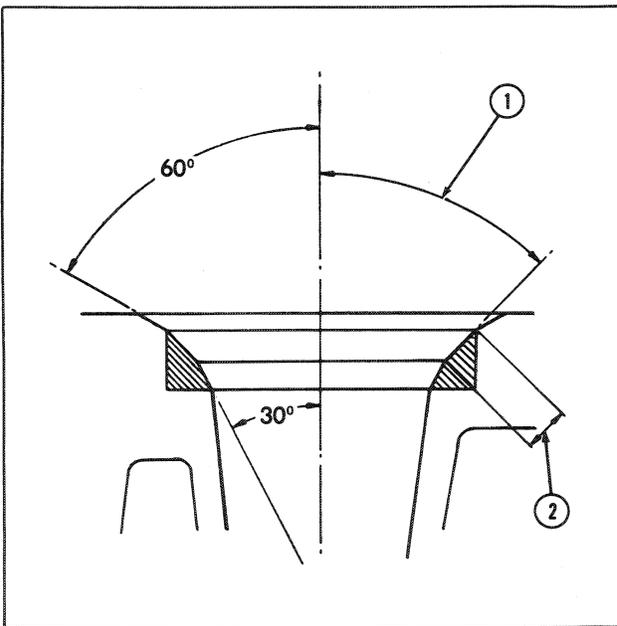

Figure 13
2. Check the width of the valve seat and, if necessary, reface by grinding to the dimensions shown in Figure 13.